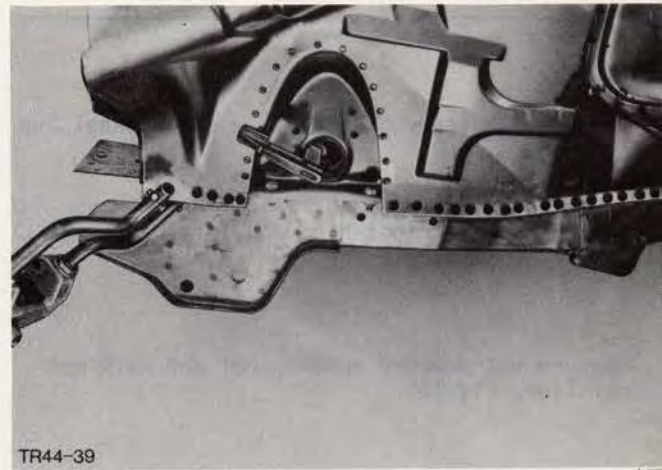

Fig.70. Spot weld apron panel at side member.
10. Spot weld apron panel on side member, Fig.70.